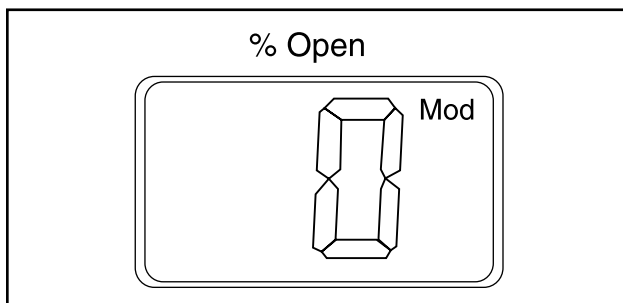

Figure 25
- Normally the Opening Degree (OD) 0 - 100% of the ICM valve is displayed. No activation of push buttons for 20 seconds means that the display will always show OD (Figure 25).